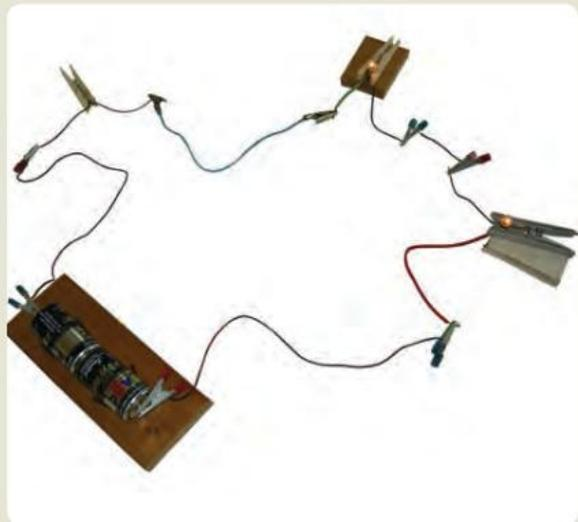

Figure 8.38 Two cells and two bulbs connected in series
The circuit shown in Figure 8.38 uses real-life components.
- 5 In your exercise book, draw a circuit diagram for Figure 8.38, using symbols for the cells, bulb, wires and switch.